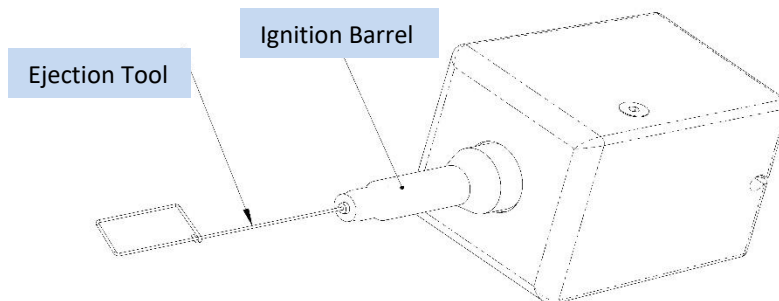

Figure 2-6 Use of Cartridge Ejection Tool
4. If the Initiation Cartridge did fire but not the BOULDER BUSTER Cartridge, inspect the Gas injection Stem for obstructions. If the Gas Injection Stem contains obstructions remove with the poker as necessary (**Figure 2-6**).